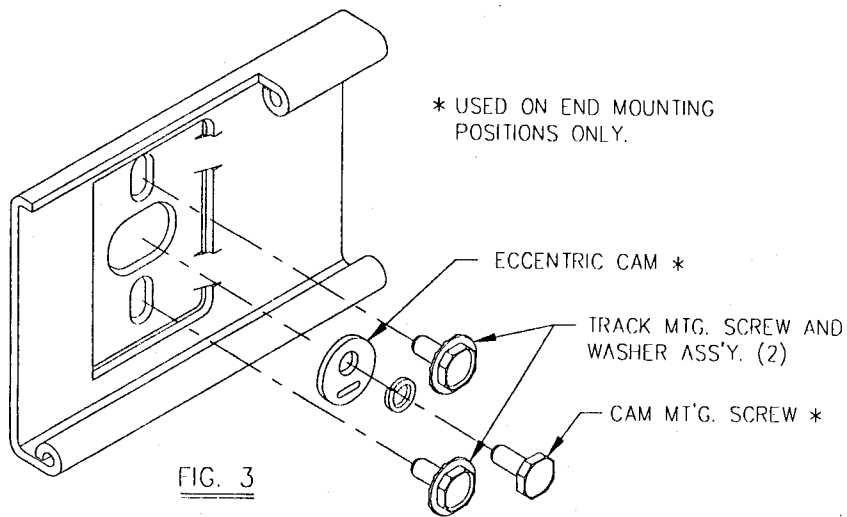

FIG. 3
- 3.- MOUNT TRACK TO HEADER AND SET ECCENTRIC CAM SO THAT THE TRACK IS IN THE LOWEST POSITION. HAND TIGHTEN ALL SCREWS. FIG. 3
| 46-47-48        | 94 | 24 (FIG. 3) | 12 | 34 | 22                    | 45-48      | 3 | 36 1/2 | 50 1/2 |